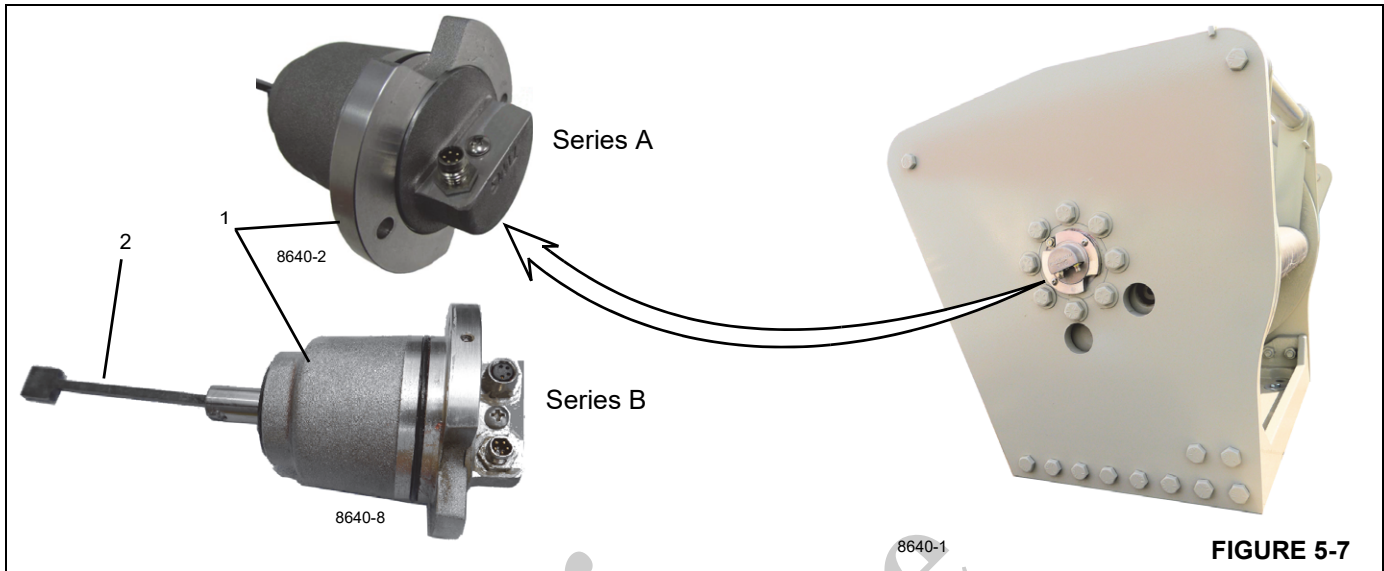

FIGURE 5-7
4. Insert the DRI into the drum. Rotate the DRI (1, Figure 5-7) so that the DRI shaft (2) engages the drive inside the drum.